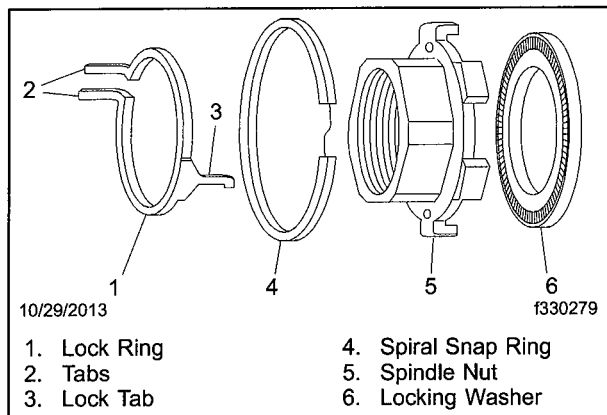

Fig. 6, PreSet Plus Spindle Nut System
14. If the lock ring is locked into the spindle nut, compress the tabs and pivot the ring to remove it from the nut. See Fig. 6.